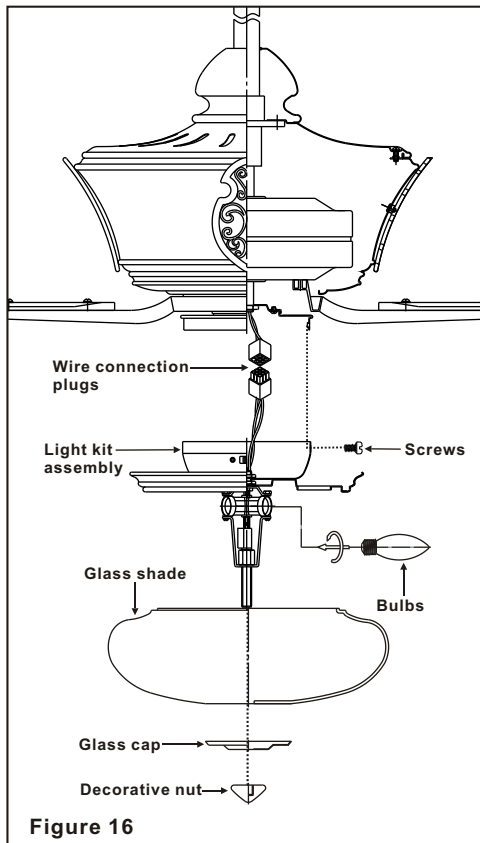

Figure 16
2. Carefully push all wires back into the switch housing, then install the light kit assembly onto the mounting plate with 4 screws provided. (Fig. 16)
3. Install 3 x 40W (Max.) candelabra bulbs (included). (Fig. 16)
4. Place glass shade over the light kit and secure it with the glass cap and decorative nut provided. **DO NOT OVER TIGHTEN.** (Fig. 16)